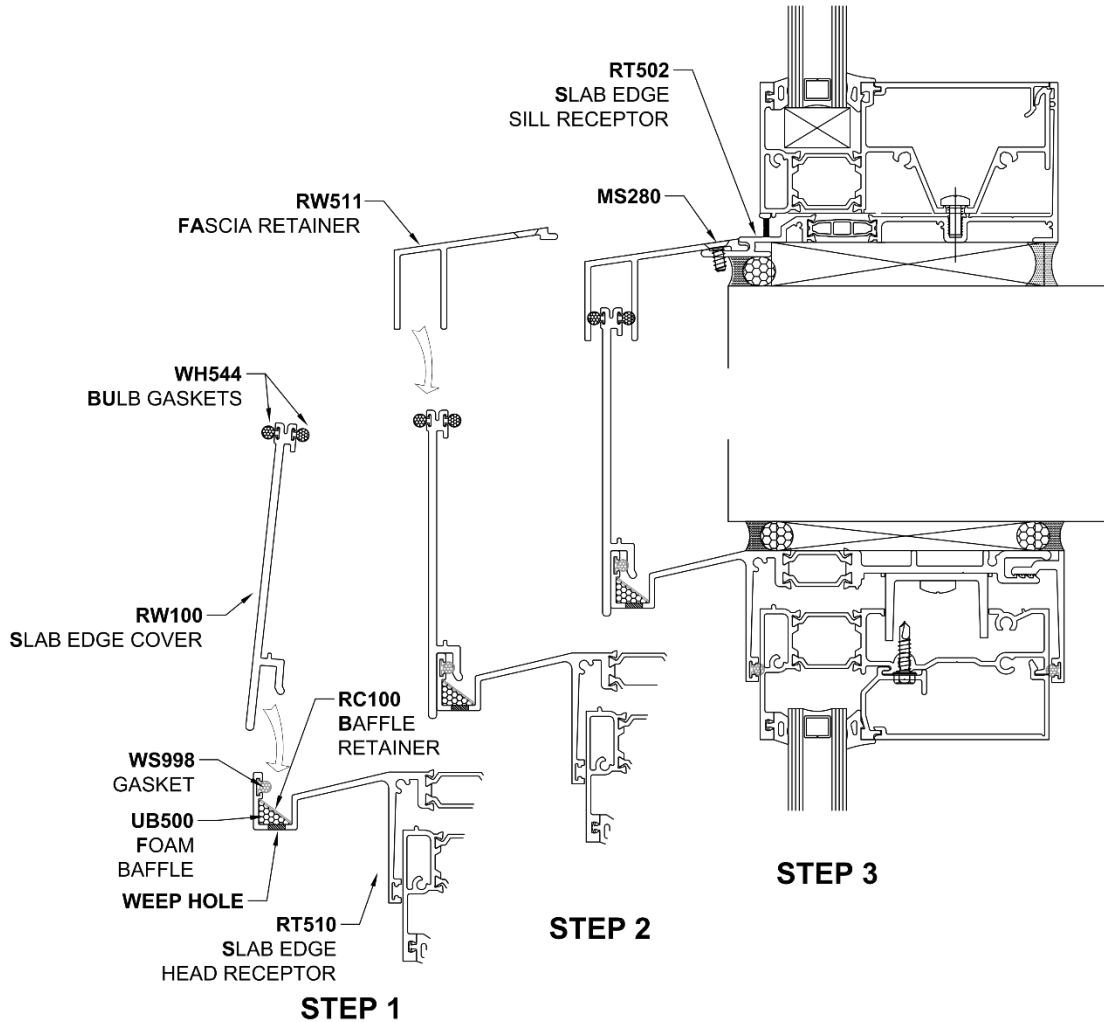

Figure 91: Slab Edge Cover Installation
- 31.3 Add **WH544** Bulb Gaskets to the **RW100** Slab Edge Cover, front and back, as shown in *Figure 91*.